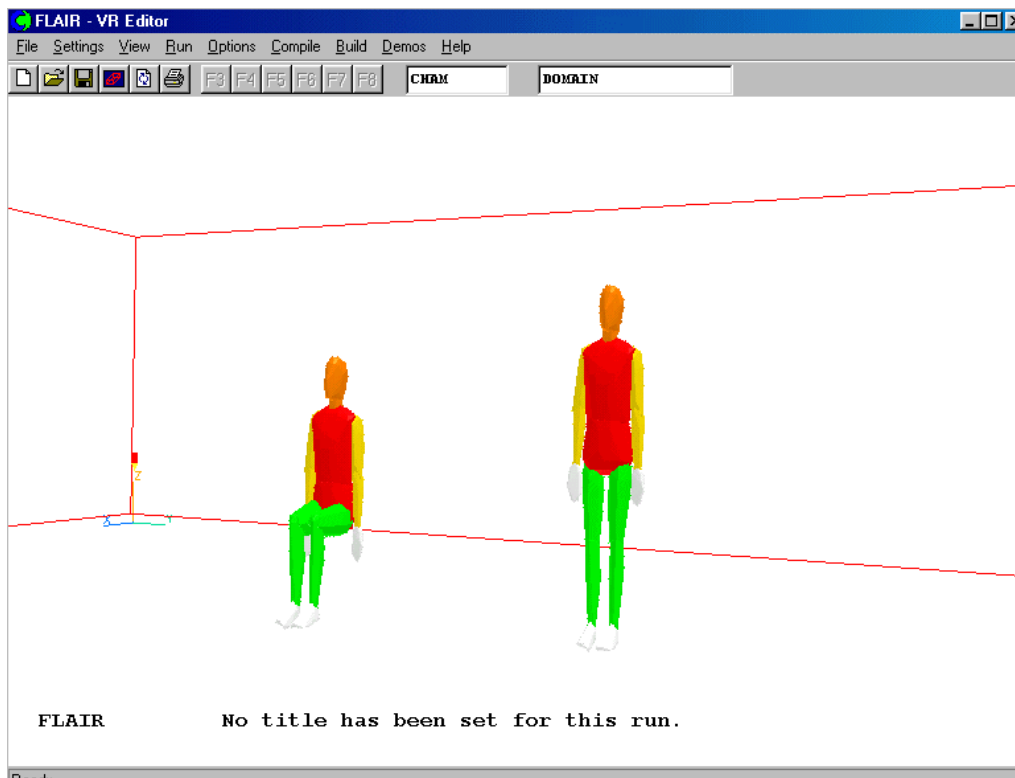
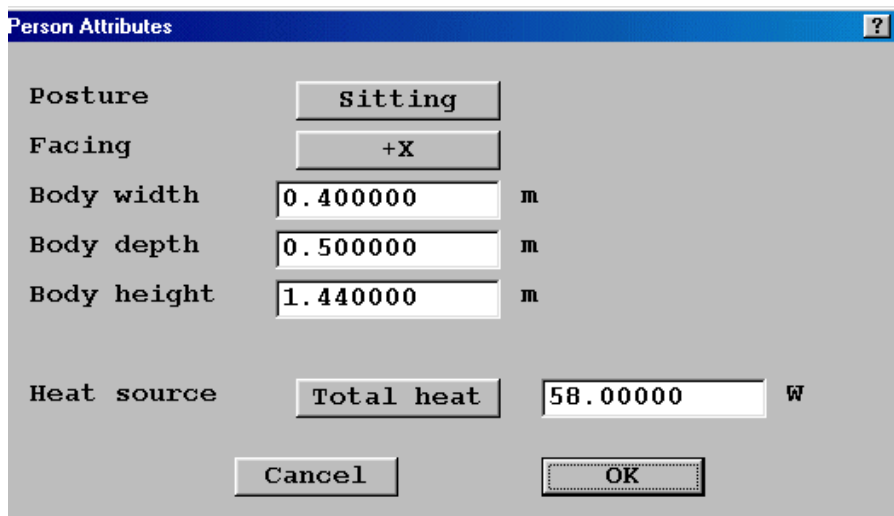

Figure 3.25 The sitting-man and the standing-man
Figure 3.26 The attributes of the sitting-man
- **sitting-man.pob** is a single object file and is used to set the heat source for a sitting-man as shown on the left in figure 3.25. The material of the sitting-man is the domain material and its default attributes are shown in figure 3.26.
- **standing-man.pob** is shown on the right in figure 3.25 and its default attributes are the same as those for the sitting-man except for the dimensions.